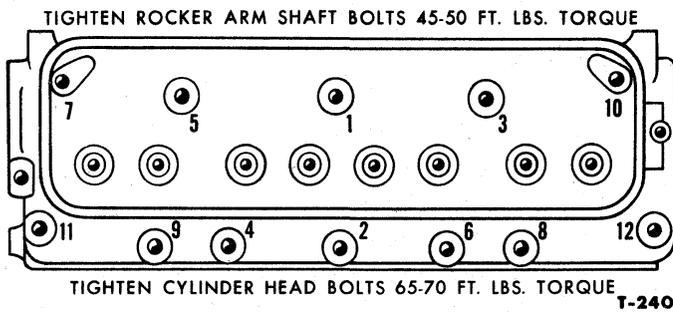

Figure 28—Cylinder Head Tightening Sequence (Gasoline Engines)
2. Tighten the cylinder head bolts in the proper sequence and to the specified torque shown in Figures 28 and 29.